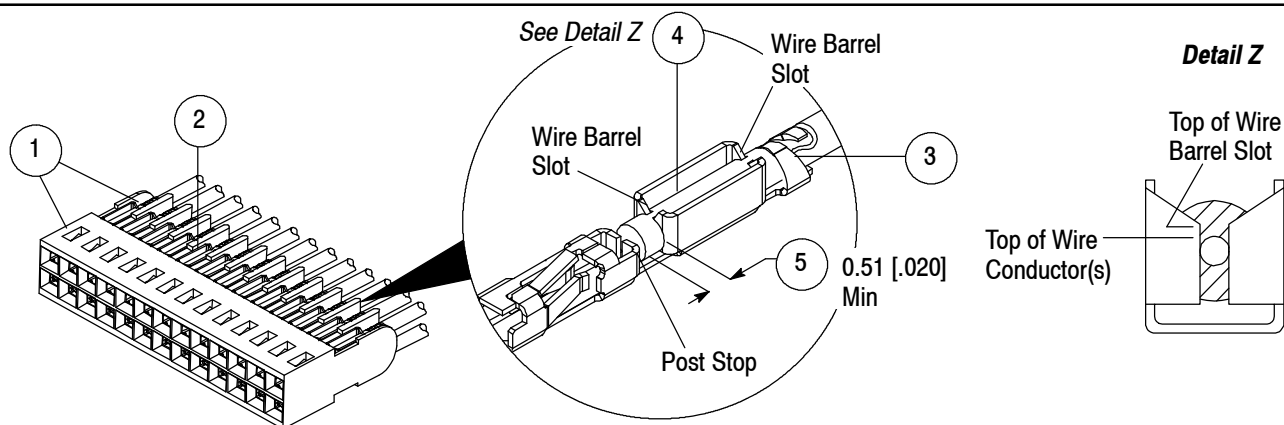

Figure 5
Receptacles must be terminated to discrete wire or cable according to instructions packaged with applicable tooling. The terminated receptacle must meet the following requirements. See Figure 5.
5. The end of each wire extends beyond the end of the wire barrel to at least the minimum dimension shown in Figure 5 or butts against the post stop.